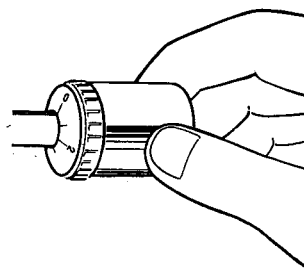

Fig. 6-18
6. Turn only the stylus scale ring and set to 0. Then turn both main weight and stylus scale ring to 2 (recommended stylus pressure). Fig. 6-18